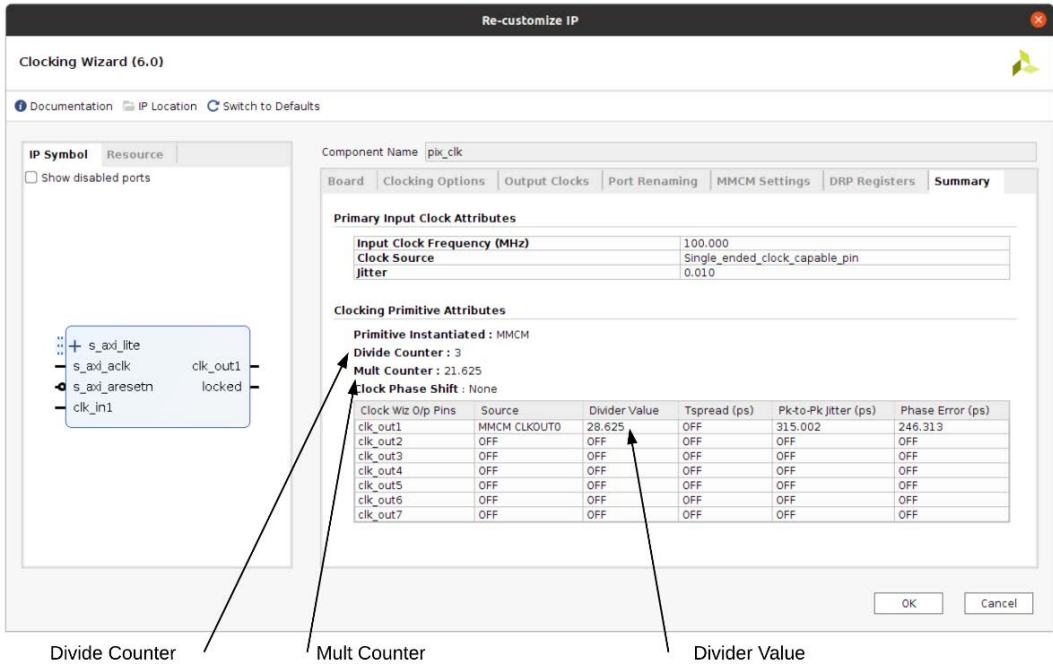

Figure 9.5 – Extracting reconfiguration parameters
Adding dynamic reconfiguration exposes an AXI Lite interface in the clocking wizard that we can use to reconfigure the PLL on the fly. The registers we need to focus on can be found in the clocking wizard drive 6.0 at https://www.xilinx.com/support/documentation/ip_documentation/clk_wiz/v6_0/pg065-clk-wiz.pdf. We'll only be reconfiguring clk0. In the following screenshot, I've extracted the information we need from the clocking wizard. In *Figure 9.5*, you can see how to extract these numbers yourself:
- **Divide Counter:** In *Figure 9.5*, for 25.18 MHz, this is 9.